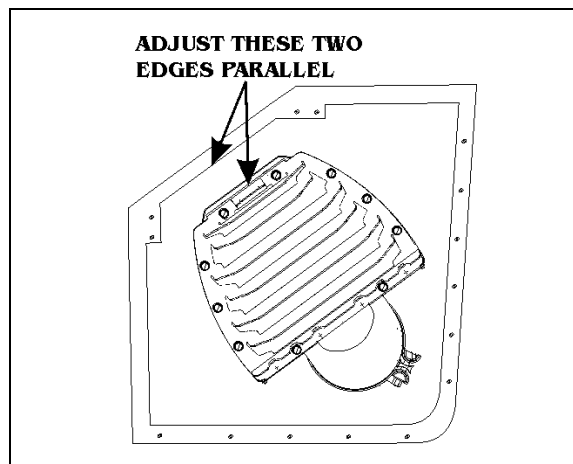

FIGURE 10: DIFFUSER POSITION ADJUSTMENT 04015_1
2. For proper angular position, make sure that the two edges shown on figure 10 are parallel with each other.